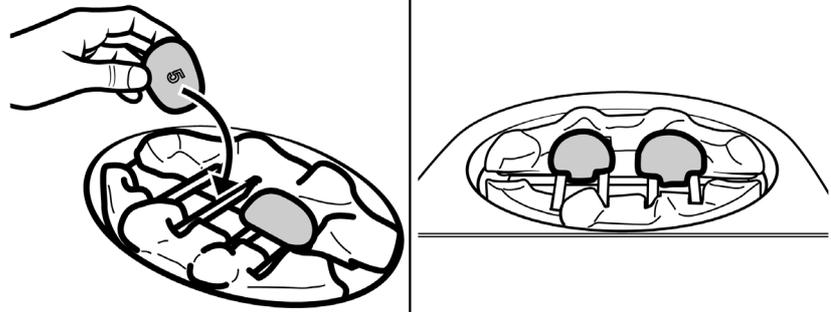

Figure 33. Pebble number '5' location
4. There are two pebbles numbered '5'. They have a central location peg on the underside. Locate the first pebble '5' centrally between the left hand ceramic support rods (See figure 33). Locate the second pebble '5' centrally between the right hand ceramic support rods (See figure 33). They will now be positioned directly above the burner ports